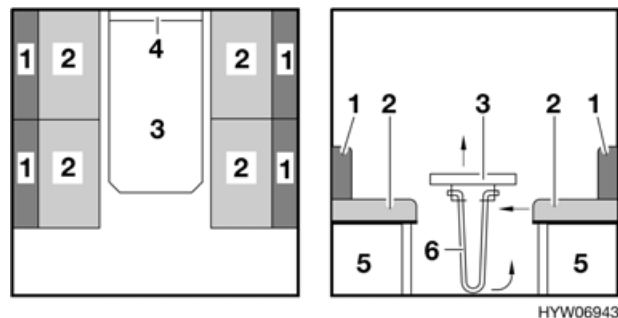

Fig. 49 Prior to conversion
- Slightly lift the front of the table-top (Fig. 49,3).
- Press the top of the table leg (Fig. 49,6) together and fold it against the bottom of the table.
- Lift the table-top by approx. 45°, remove it out of the mounting rail (Fig. 49,4) and lay it aside. The table is not required for the sleeping conversion.